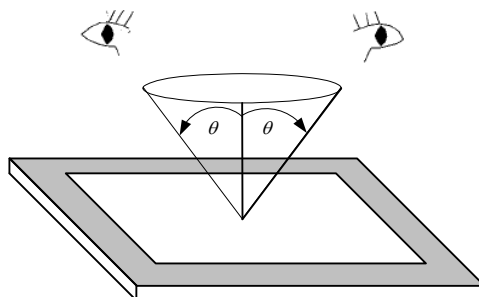

Fig. 12.1
- The viewing zone is defined with angle θ shown in Fig. 12.1 The inspection should be performed within 45° when display is shut down. The inspection should be performed within 5° when display is power on.